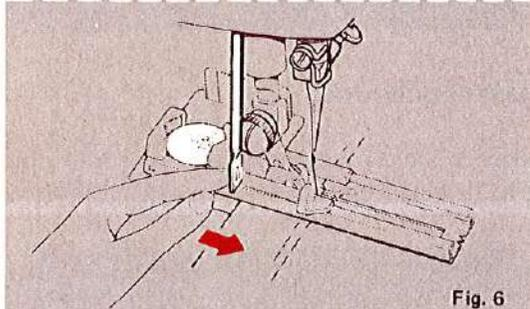

Fig. 6
7. Press buttonhole lever toward you. (See Fig. 6)
5. Press buttonhole lever away from you. (See Fig. 6)